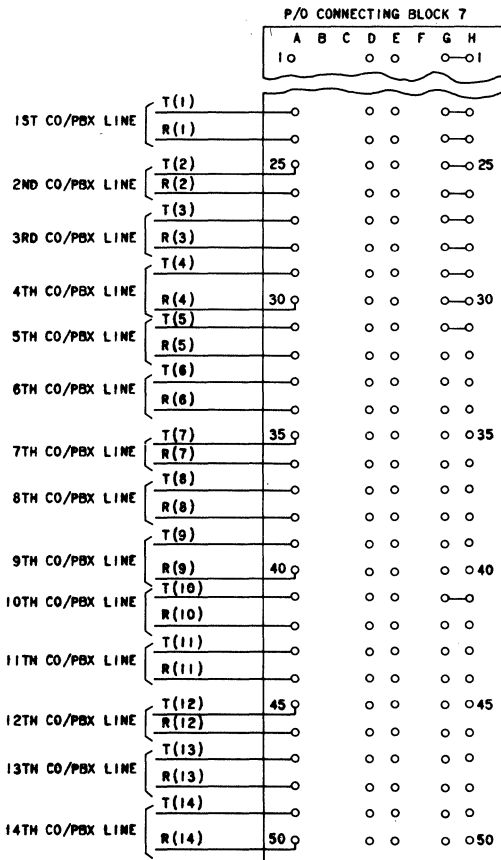

Fig. 14—Connections for Incoming CO/PBX Lines
- (1) Place cabinet in selected location and level.
- (2) Remove lift-off cover.
- (3) **Secure cabinet to floor** using appropriate fasteners.
- (4) Unlatch gate and open it slowly while observing that the cabinet is securely attached to floor and does not move or tilt.
- (5) Close gate slowly while observing that wiring forms and cords do not pinch or bind.
- (6) Connect a 14-gauge ground wire from the LOC GRD terminal of the power units to an acceptable local ground as a circuit ground. If a 3-wire grounded receptacle is not available, **a frame ground** (No. 14 gauge wire) **must** be connected from the case of the power units to an acceptable local ground.
- (7) Terminate CO/PBX or private lines on connecting block 7, column A, terminals 23 through 50. See Fig. 14.